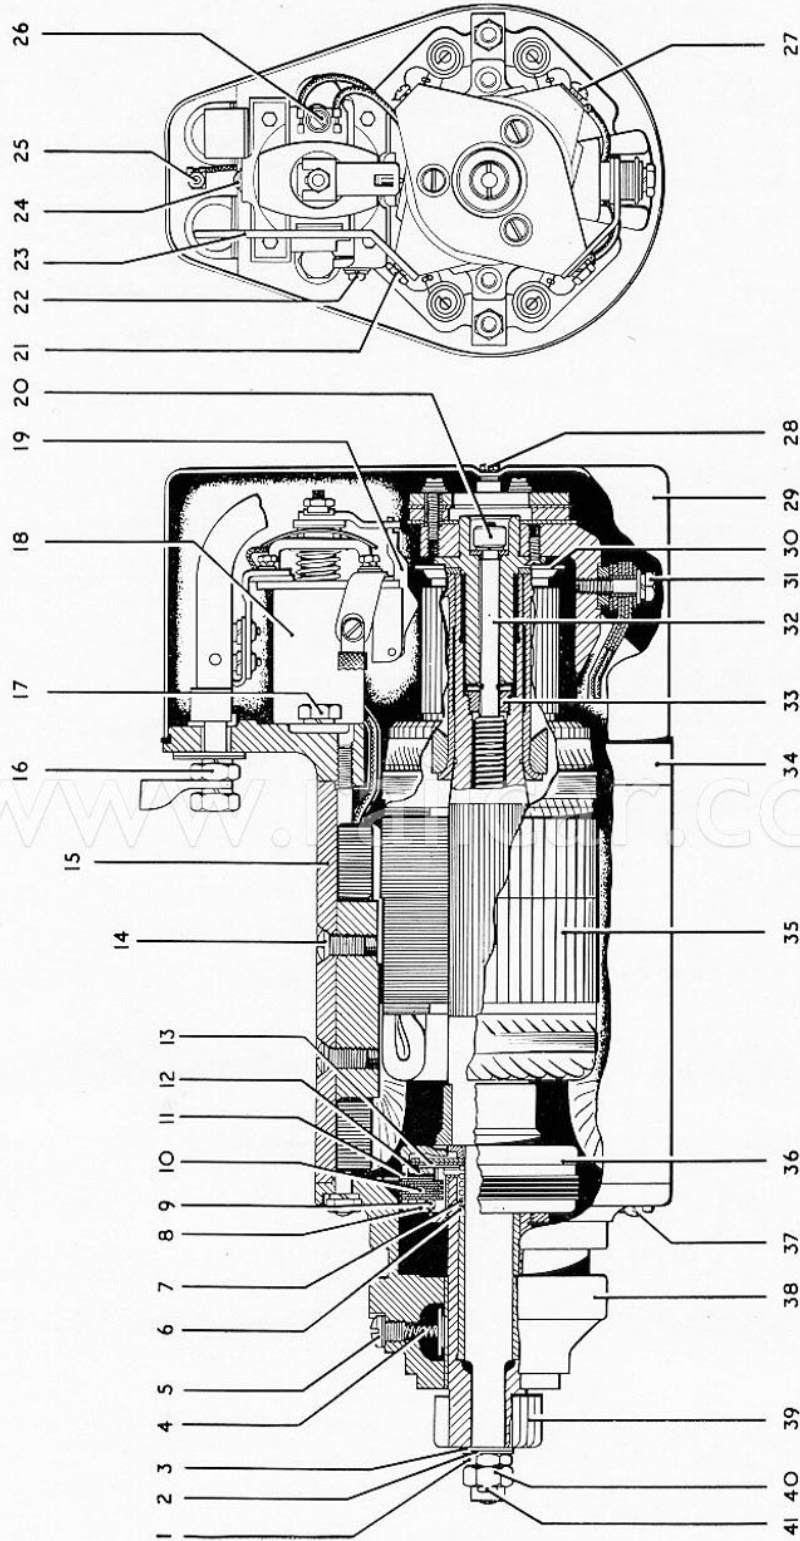

FIG. 1. TYPICAL STARTER MOTOR
When the starter switch is operated, the first stage contacts on the solenoid switch (18) (Fig. 1) close, and a small current passes through the auxiliary field windings, causing the armature to rotate slowly. Simultaneously, the complete armature assembly (35) is drawn towards the driving end of the machine by the magnetic field set up in the windings, and pinion (39) is brought into mesh with the engine flywheel gear. As the armature nears the end of its axial travel, tripping disc (30) operates trigger (19) on the solenoid switch, causing the second stage contacts to close and complete the circuit to the main series winding. The starter then exerts its full torque on the engine. When the starter button is released, the armature is returned to its disengaged position by the coiled spring on armature plunger (32).